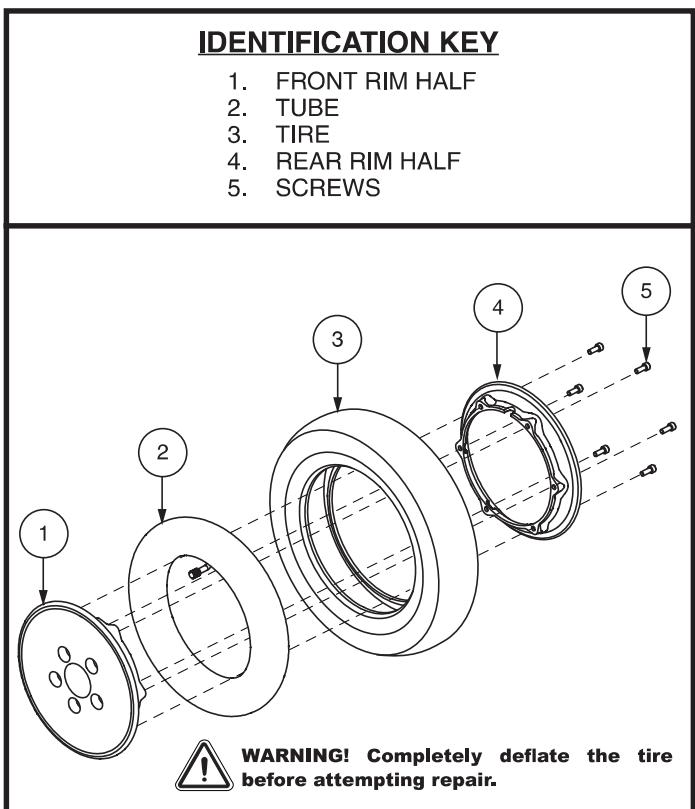

Figure 30. Pneumatic Drive Wheel Disassembly/Assembly
6. Remove the screws and separate the rim halves. See **figure 30**.